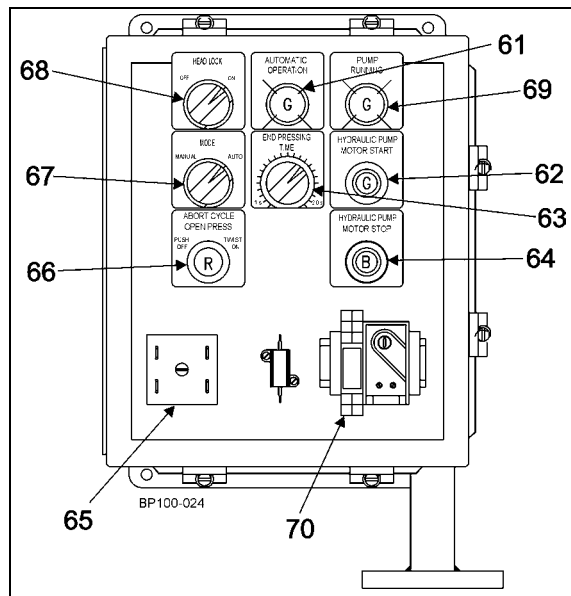

Figure 3 - Operator Push Button Panel
1. In an emergency, push in the red abort cycle push button (Figure 3, item 66) located on the operator push button panel.